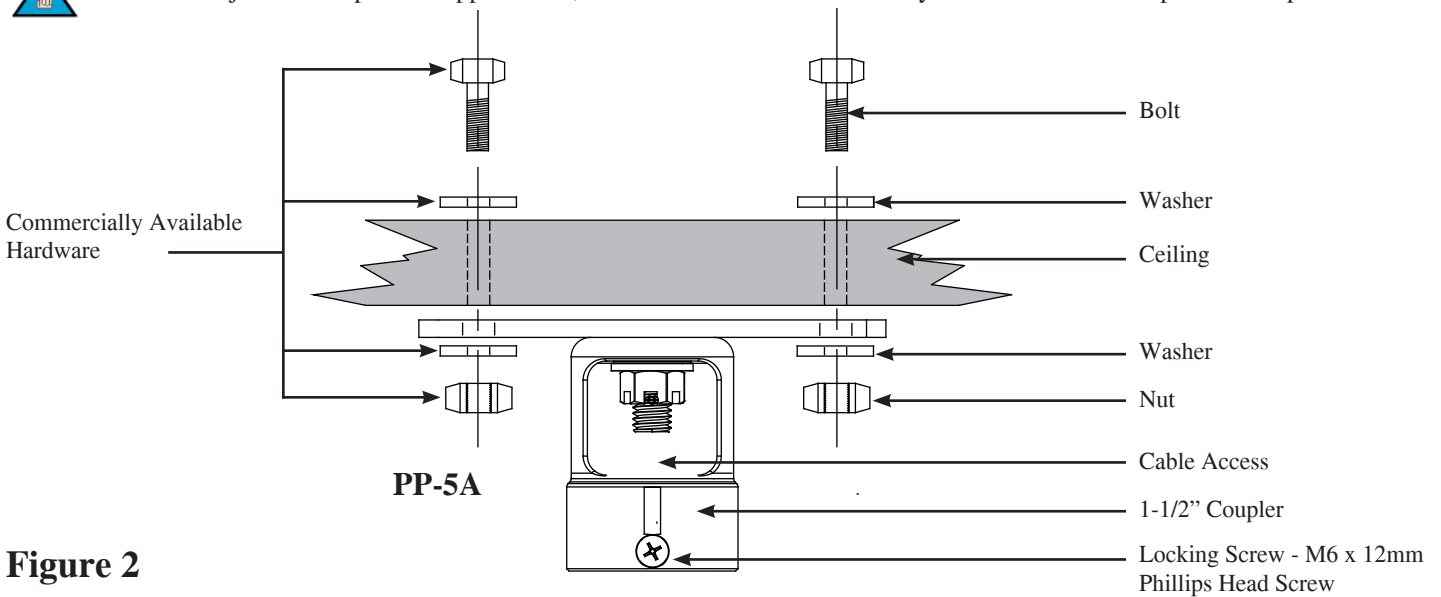

Figure 2
- Step 1.** Install the PP-5A to the ceiling structure according to commercial standards (Figure 2).
- Step 3.** See Figure 2 for cable access and 360° rotation.